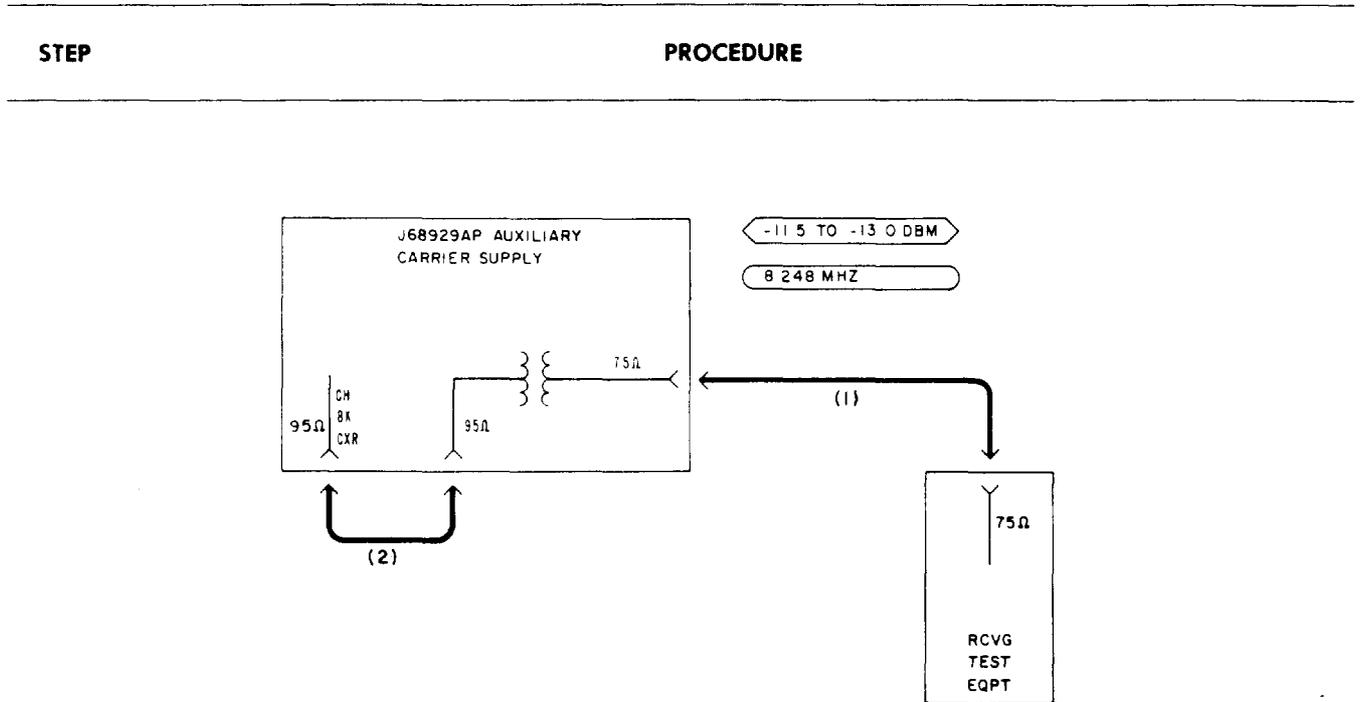

Fig. 12—Patching Diagram—Channel-Bank-Carrier Test—Auxiliary Carrier Supply
64 Connect the 95Ω jack to the CH BK CXR jack [patch (2), Fig. 12].
67 Remove patch (2), Fig. 12.